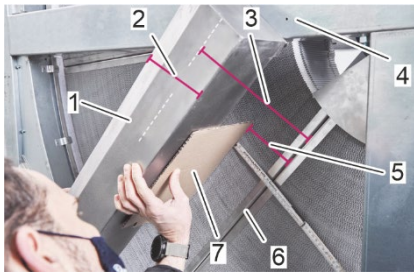

Fig. 51: Align drip pan
3. Hold the drip pan (Fig. 51/1) on the rotor frame (Fig. 51/4) on the exhaust air side.
4. Align the drip pan (Fig. 51/1) parallel to the rotor segment (Fig. 51/6). The distance to be set (Fig. 51/5) results from the distance measured in step 2 (Fig. 51/3) minus half the width (Fig. 51/2) of the drip pan (Fig. 51/1).
Use a suitable measuring stop (Fig. 51/7) (e.g. a piece of cardboard) to measure the distance between the drip pan and the rotor segment.